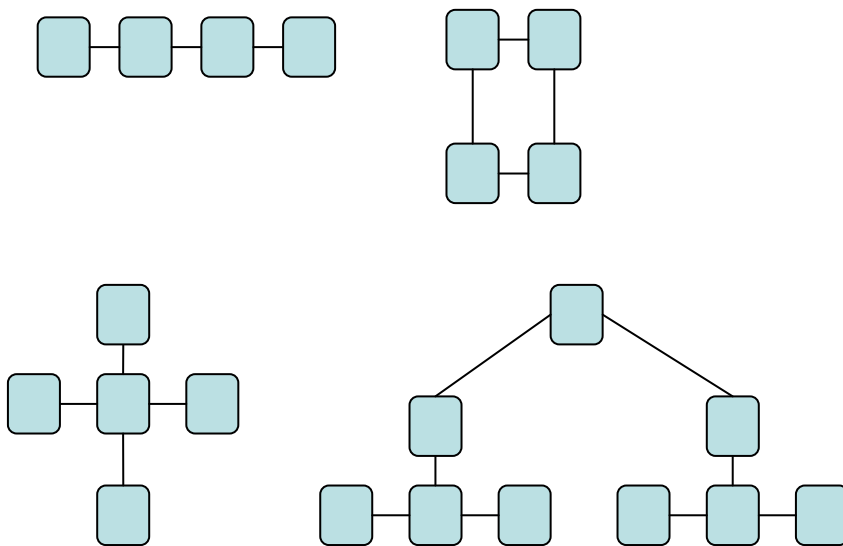

Figure 3 Cable Topologies: Clockwise from upper left, Daisy-Chain, Ring, Tree, Star
- #7. Flexible cabling topologies including tree, star, ring, daisy-chain, etc. (Figure 3)